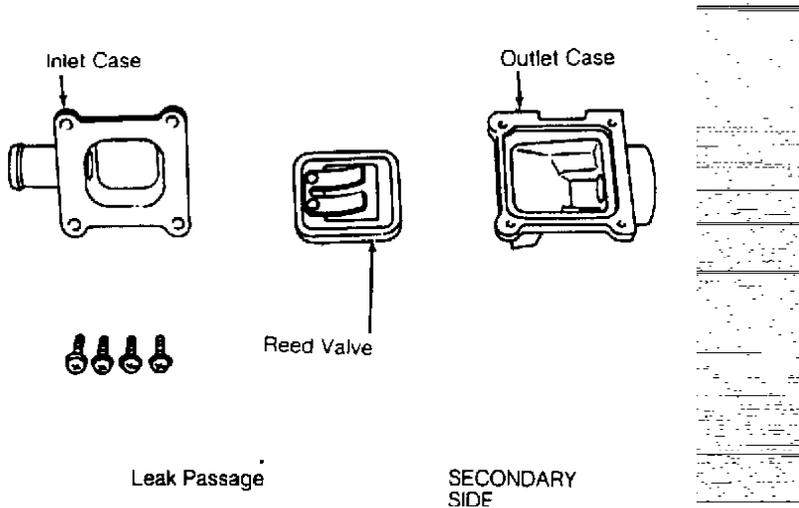

Fig. 5: Exploded View Of Suction Valve (Justy)
3) Open suction valve. Inspect gasket, inlet case and outlet case for damage (cracks). Clean reed valve with gasoline and inspect for waves, cracks or dents in reed valve seat. Inspect for broken or cracked point of reed valve, or rusted stopper. Replace as required. See Fig. 5.